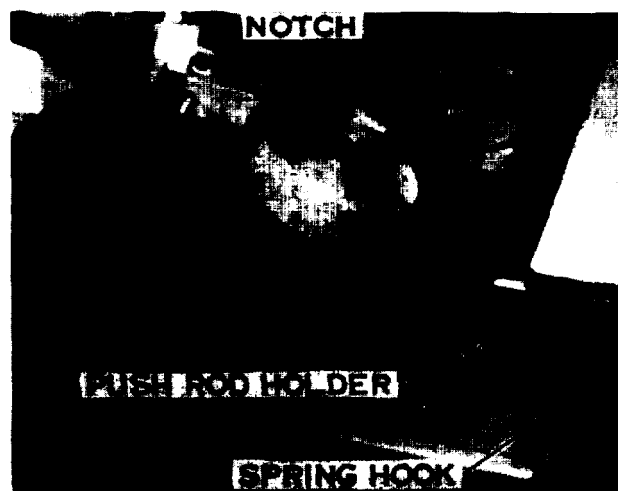

Figure 1
D. STOCK STOP INSTALLATION. Insert the bar slot end first into the hole in the machine bed. Align the slot in the bar end with the pin on the opposite side of the machine base. As the bar engages the pin, place the push arm into the notch on the cutting head pivot arm (Fig. 1). Attach the spring to the bracket as shown.